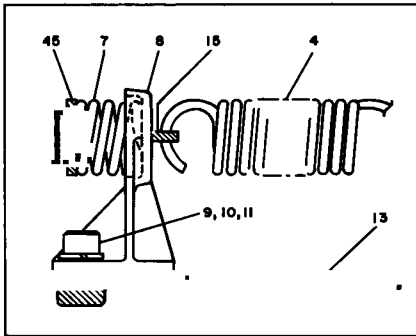

FIGURE 9 Installing Optional Gain Suppression Kit
INSTALLING OPTIONAL GAIN SUPPRESSION KIT (Refer to Figure 77 and Figure 9)
2 Disconnect range spring (Figure 9, item 4) from spring retainer (15) using needle nose pliers.
8 Position retainer (Figure 9, item 8) on its slotted holes so it is in position to exert a slight, even compression load on spring (7) when cam and signal pressure are at 0%. Tighten screws (9) in this position.